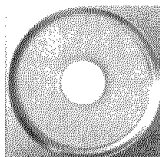

Figure 4
4. You can now place the keg inside the dispenser. Turn the keg so that the tube is not folded and proper flow is not obstructed as is shown in Figure 4. (the other hose will hang freely on the side)